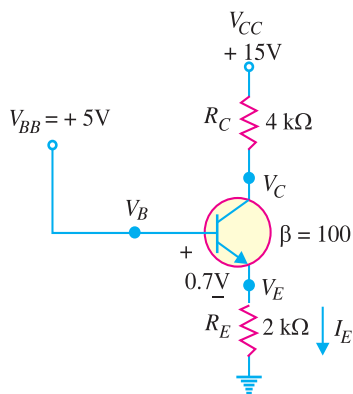

Fig. 8.73
13. For the circuit shown in Fig. 8.73, find (i) the state of the transistor and (ii) transistor power. [(i) active (ii) 4.52 mW]